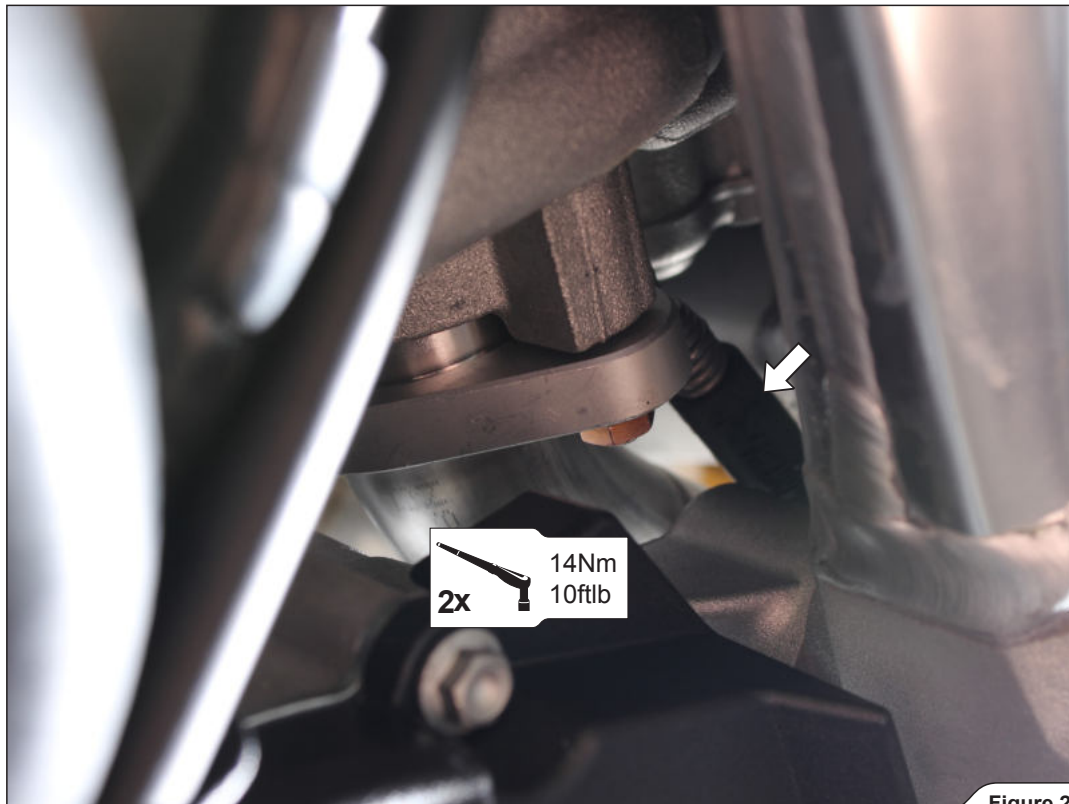

Figure 21
5. Instal the **left rear header** together with sleeve, flange and spring; tighten the flange onto the rear cylinder head, using stock nuts and attach the spring (**Figure 21**).